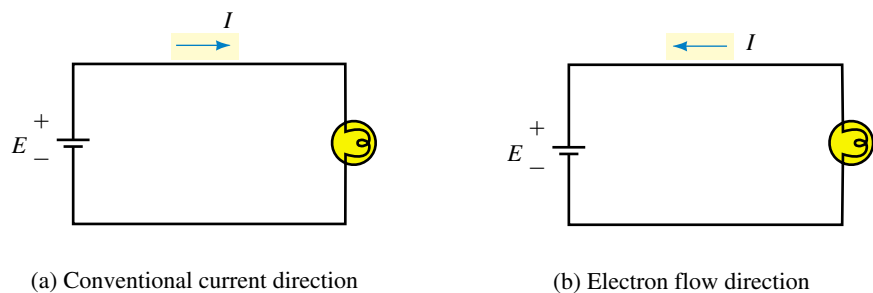

FIGURE 2–11 Conventional current versus electron flow. In this book, we use conventional current.
EXAMPLE 2-3 If 840 coulombs of charge pass through the imaginary plane of Figure 2–10 during a time interval of 2 minutes, what is the current?
2. After the switch of Figure 2–1 is closed, current $I = 4$ A. How much charge passes through the lamp between the time the switch is closed and the time that it is opened 3 minutes later?
In the early days of electricity, it was believed that current was a movement of positive charge and that these charges moved around the circuit from the positive terminal of the battery to the negative as depicted in Figure 2–11(a). Based on this, all the laws, formulas, and symbols of circuit theory were developed. (We now refer to this direction as the **conventional current direction**.) After the discovery of the atomic nature of matter, it was learned that what actually moves in metallic conductors are electrons and that they move through the circuit as in Figure 2–11(b). This direction is called the **electron flow direction**. However, because the conventional current direction was so well established, most users stayed with it. We do likewise. Thus, *in this book, the conventional direction for current is used.*
2. Briefly describe the mechanism of voltage creation using the carbon-zinc cell of Figure 2–8 to illustrate.
3. When the switch in Figure 2–1 is open, the current is zero, yet free electrons in the copper wire are moving about. Describe their motion. Why does their movement not constitute an electric current?
5. For Figure 2–1, assume a 12-V battery. The switch is closed for a short interval, then opened. If $I = 6\ \text{A}$ and the battery expends 230 040 J moving charge through the circuit, how long was the switch closed?